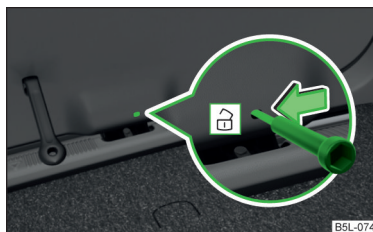

Fig. 187
- › Insert a screwdriver or similar tool into the opening in the trim » Fig. 187 as far as the latch.